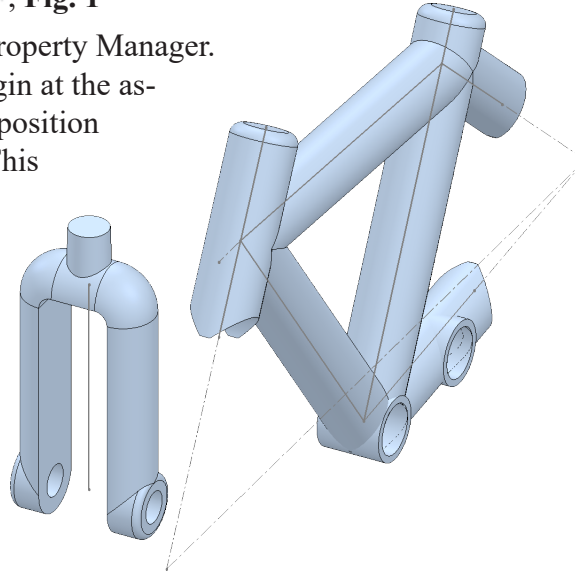

Fig. 2
Step 6. Click approximately where Fork is positioned in **Fig. 2**.